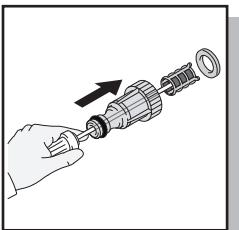

Fig. 17
- The screen inside the clear adapter should be cleaned periodically. Insert a pen or pencil in small hole at the end of the adapter. The screen filter will slide out (Fig. 17). Rinse it with clean water, and then place it back in the adapter.